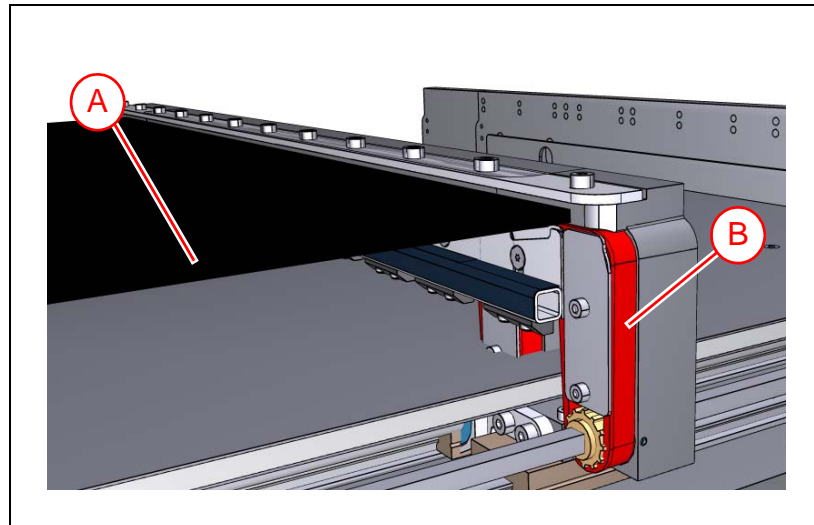

Figure 4-9. Insert area calibration background.
- When prompted to insert board, open the front hood and place a number of support pins ('A' in Figure 4-9) on the conveyors lift table. Distribute the support pins evenly over the place area ('B').
- When ready, insert the area calibration background with the white lines facing down, see Figure 4-7. Orient the background so that the front and back edges of the area calibration background ('A' in Figure 4-9) rest on the conveyor belts ('B').